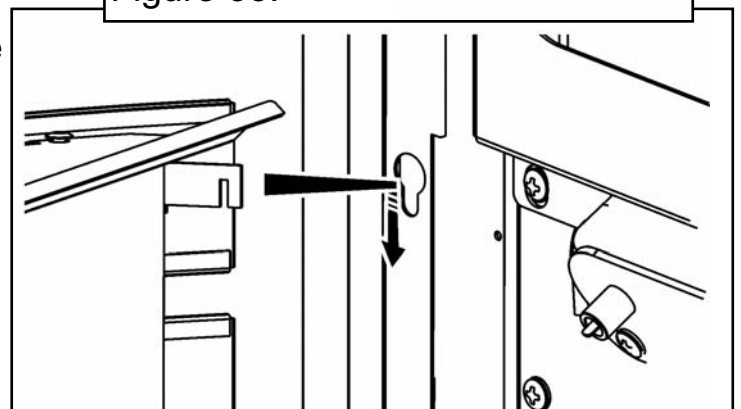

Figure 34.
- Fit the fire front between the fascia sides. Locate the two hanging brackets at the rear top corners of the casting through the keyhole slots at the inner sides of the fascia. Lower the fire front so that it rests on the hearth (See figure 34).